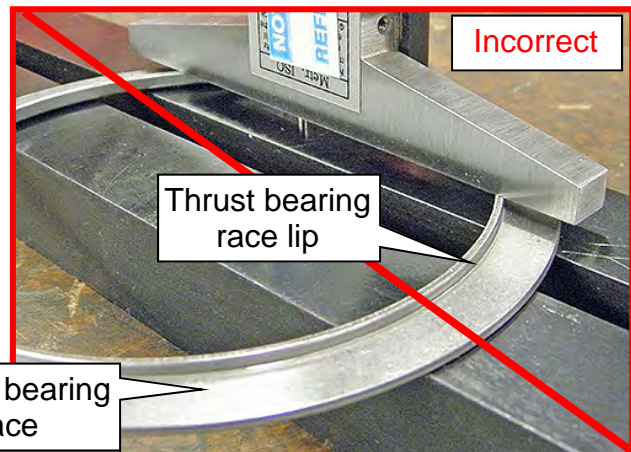

Figure 149
**IMPORTANT:** Do not measure from the thrust bearing race lip (Figure 149).